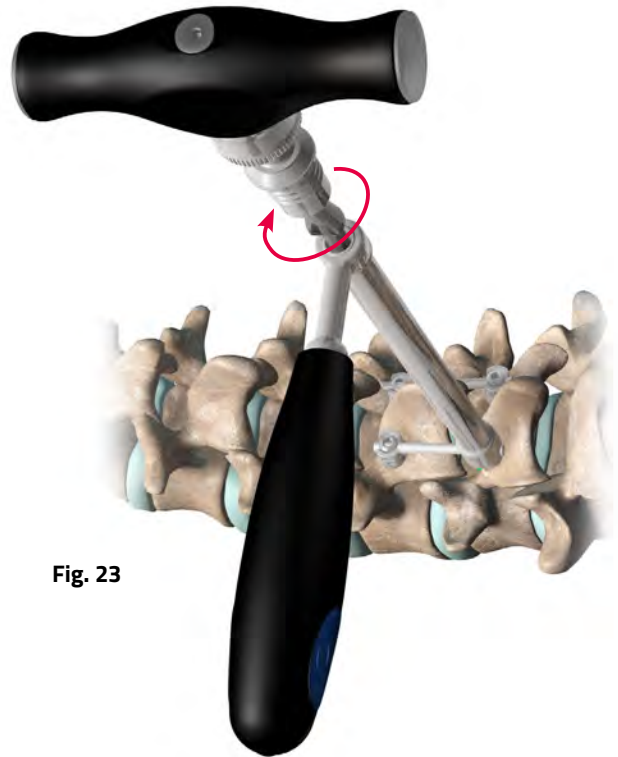

Fig. 23
**NOTE:** Insert the set screw driver into the torque limiting handle by compressing connection mechanism. Ratcheting feature will not function properly unless driver is fully seated before releasing connection mechanism. Ensure the ratcheting dial is set to forward "F" prior to engaging the set screw. **(Fig. 23)**